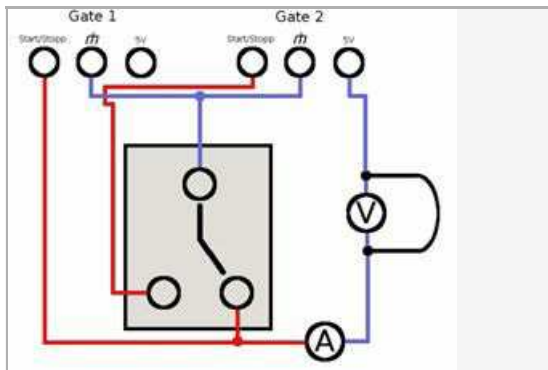
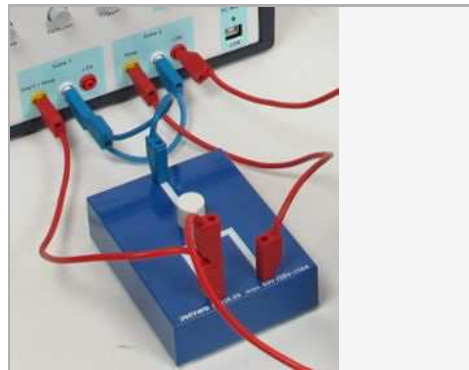

Fig. 3: Schematic circuit for measuring the heating time.
Fig. 4: Connecting two-way switch and counter.
- One of the 5 V outputs of the universal counter serves as the power source. The electrical circuit is illustrated in Fig. 3 and Fig. 4.
- Determine the current which flows through the heating wire and the voltage separately at the end of the measuring series. To achieve this, connect one of the digital multimeters in series as an ammeter and the other in parallel as a voltmeter (compare Fig. 3). Determine the air pressure, which is required for the calculations, with the aid of the weather station.